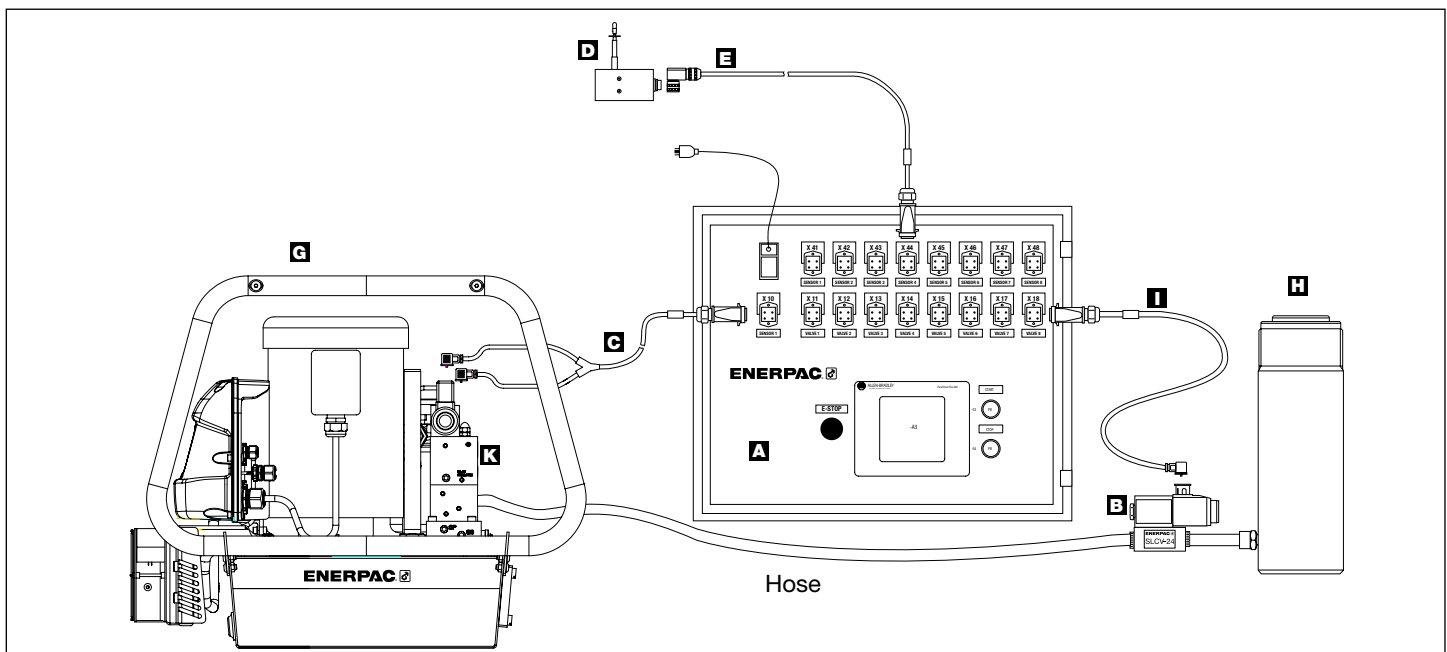

Figure 1, General Layout
3.1 Standard Components (refer to Fig. 1)